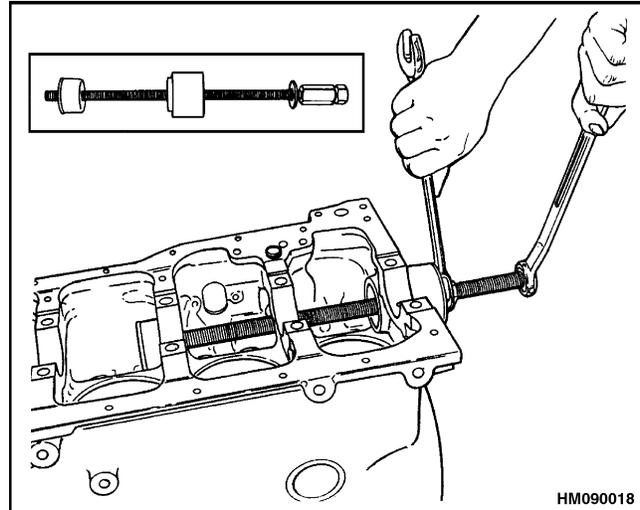

Figure 18. Camshaft Bearings Replacement
Special tools are required to remove and install the camshaft bearings. See Figure 18. Remove the front and rear bearings last.
2. Install the removal and installation tool as shown in Figure 18. Remove the intermediate bearings.
2. Install the intermediate camshaft bearings. Use the special tool as shown in Figure 18.